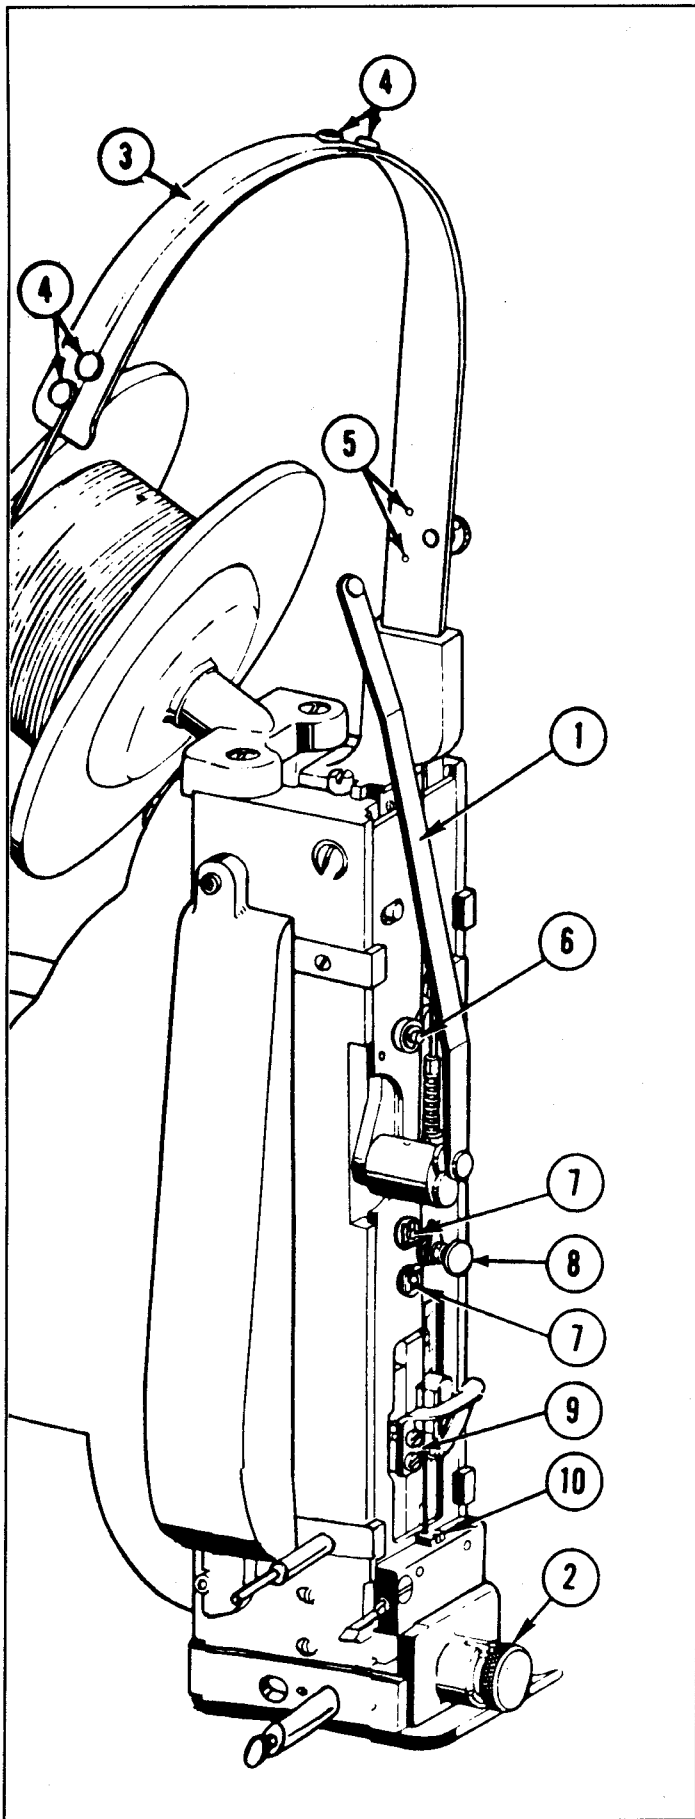
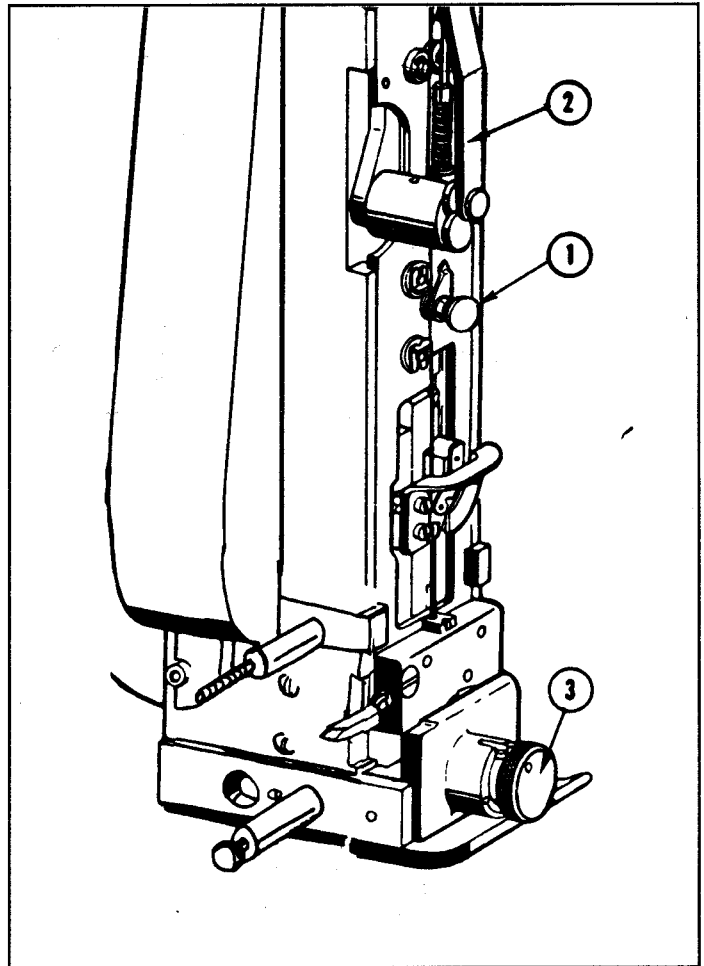

FIGURE 2
FIGURE 3
3) THREADING WIRE: (See Figure 2)
- b) Disengage the swivel operating spring (1) from the swivel (2) by lifting the lower end of the spring and swinging it to the left.
- c) Run the wire over the wire guide spring (3), and thread it between the wire guide spring studs (4), under the flanges of the wire straightener rolls (5), through the oiler felt in retainer (not shown) and then between the face plate wire tension rolls (6).
- d) Open the wire straightener eccentric (8) and feed the wire between the wire straightener rolls (7) and wire straightener eccentric roll.
- f) Pass the wire between the stationary and rotating grips at (9), then cut it off just below grip holder, and insert about 1/4 inch of wire into the slot on the top of the stationary wire cutter (10).
4) STRAIGHTENING WIRE: (See Figure 3)
- a) Adjust the wire straightener eccentric (1).
- b) Determine the correct location of the eccentric by disengaging the swivel operating spring (2) and removing the swivel (3), and watch the wire as it is fed past the opening in the swivel holder when the machine is operated. If the wire curls to the left, the straightener is not set tight enough. If the wire curls to the right, the straightener is set too tight.